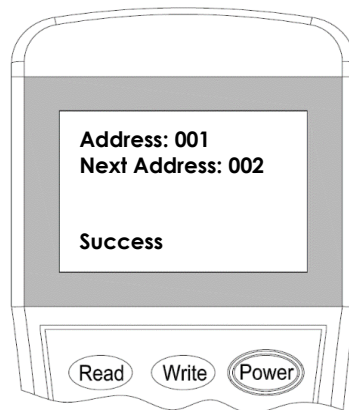

Figure 4
3. Input the desire device address value from 1 to 254, and then press **“Write”** to save the new address (Figure 4).